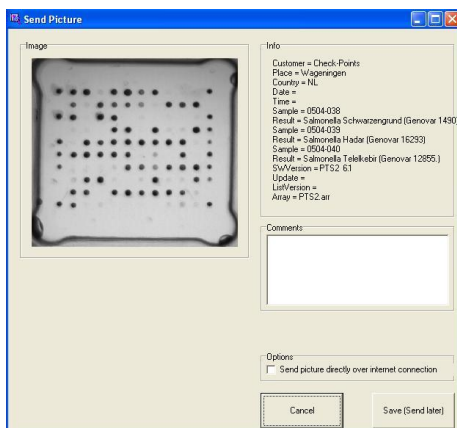

Figure 8: send picture pop-up
- For support concerning results please send the result image along with the desired information to serovar@check-points.com. To do this double click on the result(s) in question in the result summary window. A pop-up will appear (see figure 8) in which your comments may be added to the file.